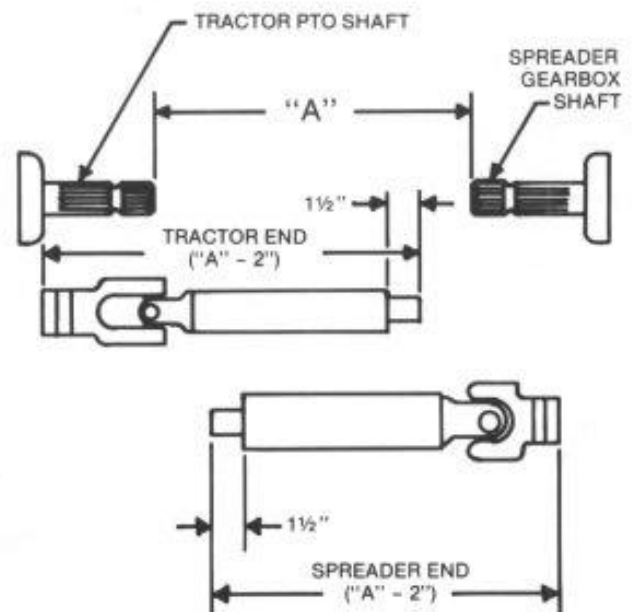

FIGURE 1
(REFER TO FIG. 1)
Measure the distance between the ends of the two shafts (Dimension "A", Figure 1). Each half of the PTO should be equal to dimension "A" minus two (2) inches.